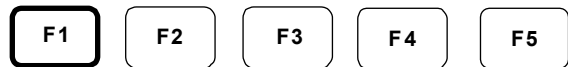

Figure 14-20. Glue-Pressure-Edit Menu
5. Press F2 (Press.). The glue-pressure-edit menu displays (Figure 14-20).